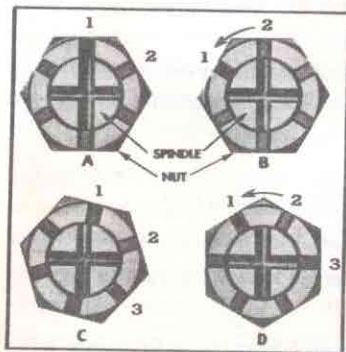

Fig. 54—Method of Adjusting Front Wheel Bearings
- back off the nut ($\frac{1}{6}$ turn) until the next slot in the nut lines up with the same hole in the spindle and insert cotter pin (see B, fig. 54).
- If, when the spindle nut is tightened to 33 foot pounds, the slot in the nut has passed beyond vertical or horizontal holes in spindle (see C, fig. 54), back off the nut a sufficient amount (less than $\frac{1}{6}$ turn) to line up the second next slot in nut and the other hole in the spindle.
- To illustrate this point the slots in the nut are indicated 1, 2 and 3 (see D, fig. 54). If the slot marked 1 on the
- Check the location of a slot in the nut with reference to a hole in the spindle. If a slot in the nut lines up with either the vertical or horizontal holes in the spindle (see A, fig. 54),